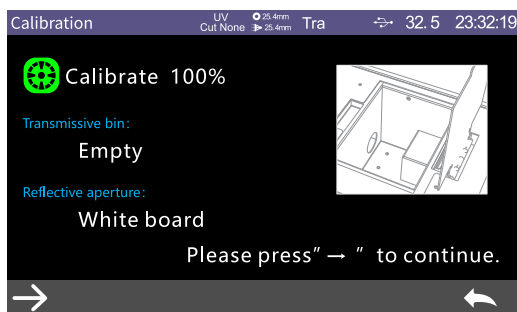

Figure 8 100% Calibration
2、 After finishing 0% calibration, enter 100% calibration ,take out the black plate, place the white calibration reference according to prompt, ensure it stick to the side of integrating sphere tightly, close the bin cover, and press test key to start calibration.as shown in Figure 8.
- 2、 After finishing 0% calibration, enter 100% calibration ,take out the black plate, place the white calibration reference according to prompt, close the bin cover, and press test key to start calibration.as shown in Figure 8.